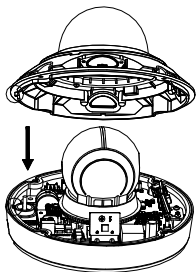

Figure 2-5 Install the Bubble
4. Align the bubble with the camera base, and install the bubble back. Fix the bubble with four screws, as shown in Figure 2-5.